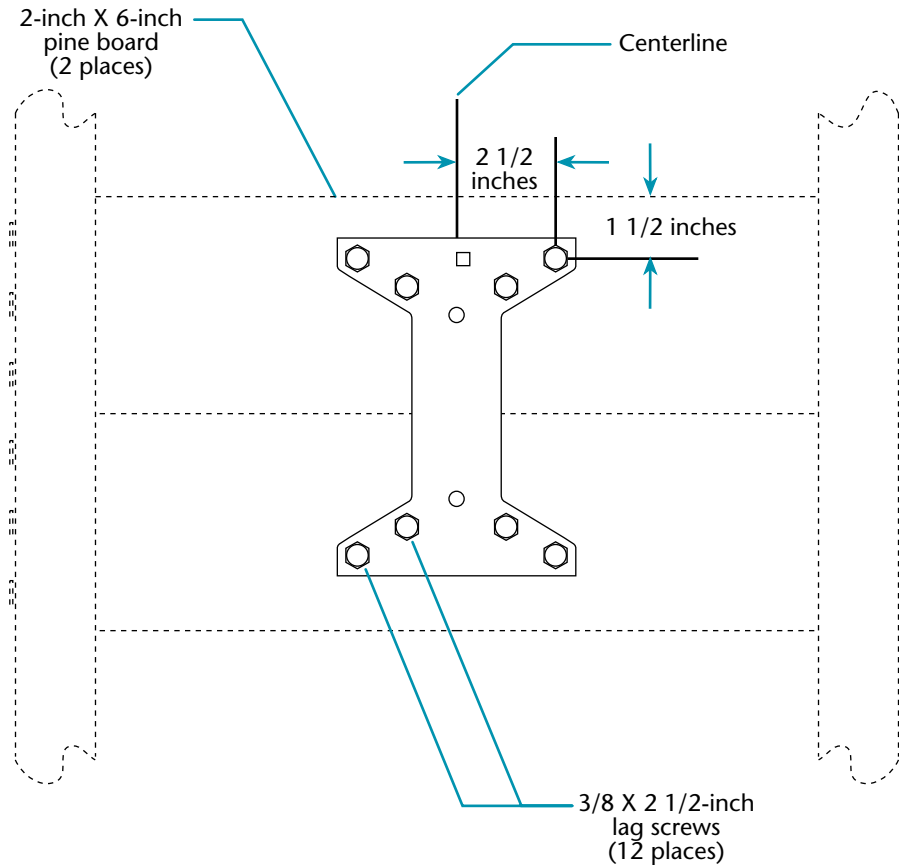

Figure 4-41. Installing the mounting lag screws
2. Find the centerline of the top reinforcing pine board (see figure 4-41). Mark a location that is approximately 2 1/2 inches over from the centerline and 1 1/2 inches down from the top of the board (see figure 4-41). This mark indicates where you will be drilling later.